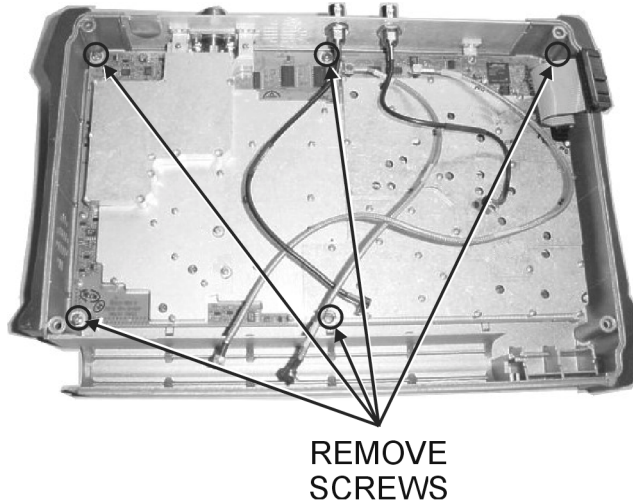

Figure 17. Spectrum Analyzer Module Removal
2. Use a Phillips screwdriver to remove the six screws securing the Spectrum Analyzer Module Assembly to the back half of the instrument case (Figure 17).